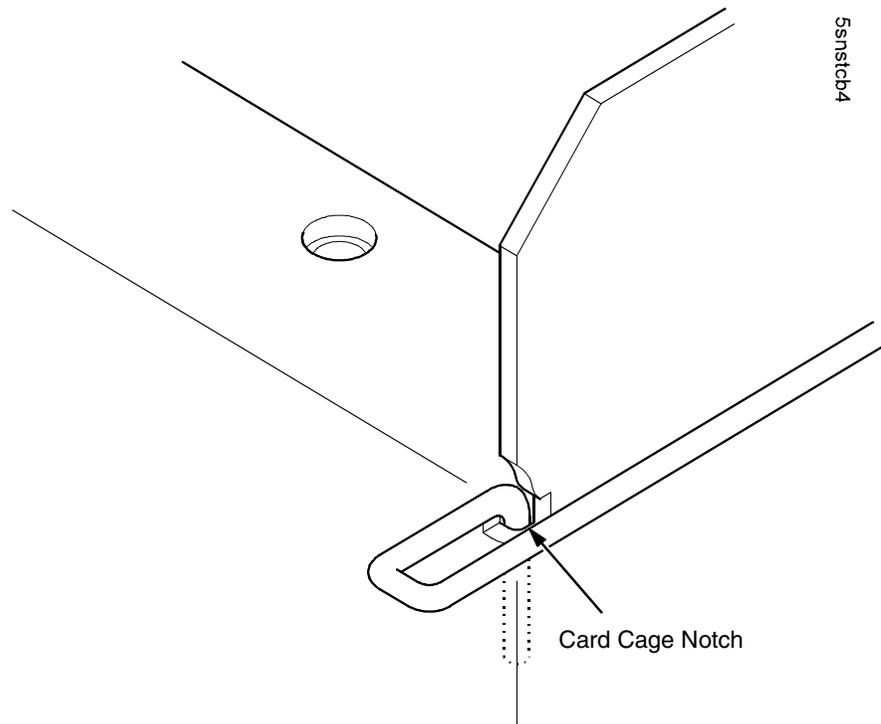

Figure 82. Locking the Cable Routing Guide Retainer Wire
8. Slide the retainer wire over the cable routing guide and through the four chain hooks. (Figure 82.)
9. Insert the bent end of the cable routing guide retainer into the card cage notch. (Figure 82, detail.)